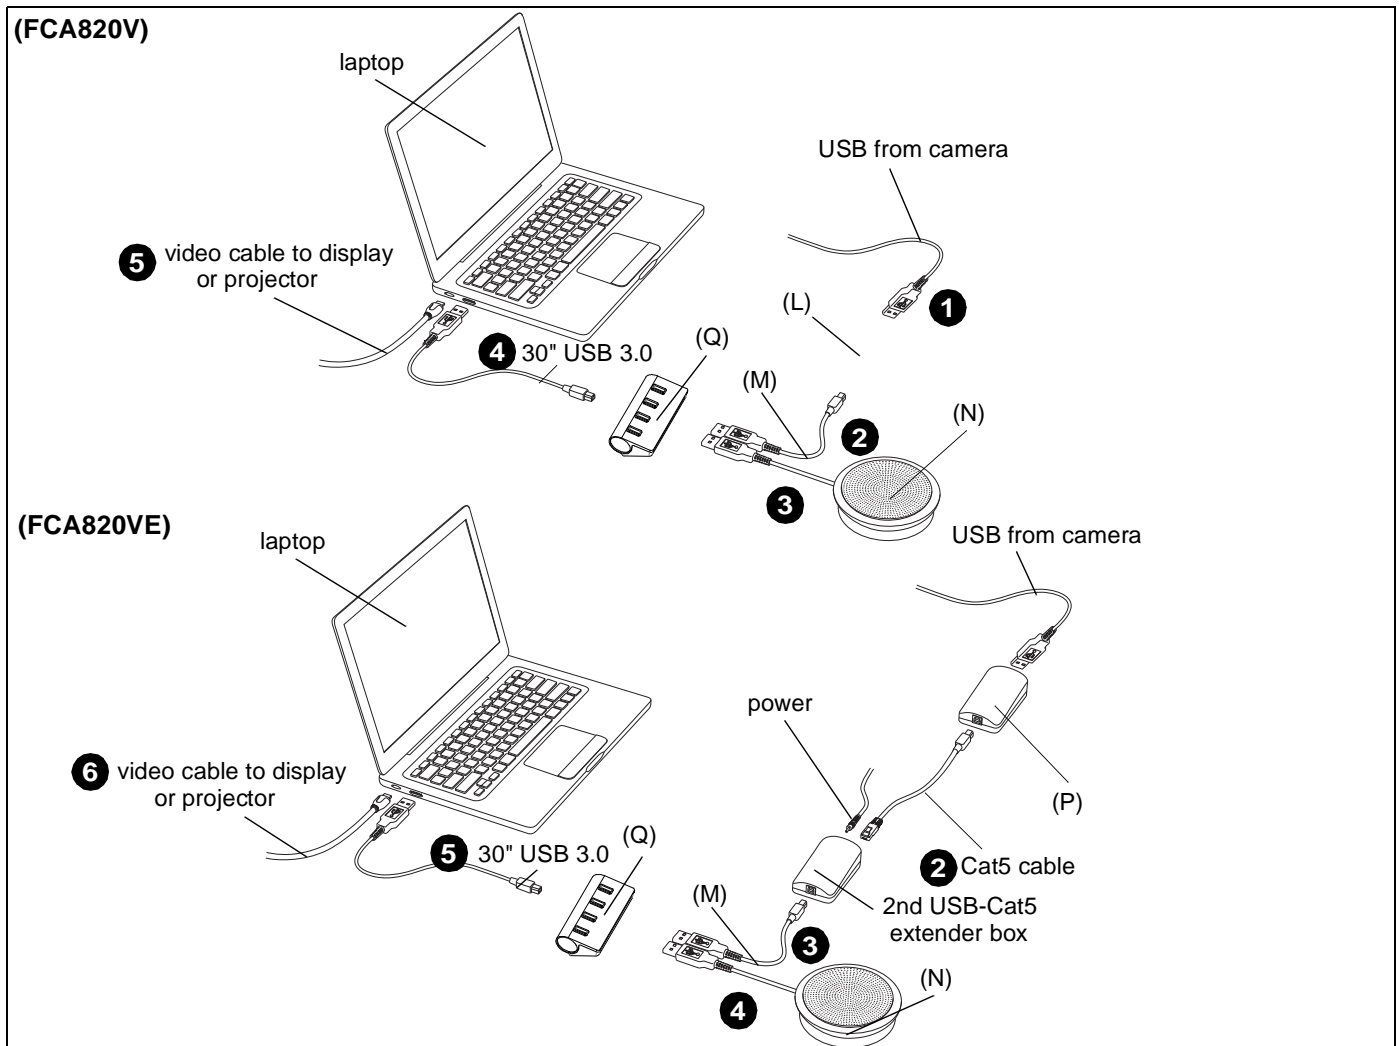

Figure 11
1. Connect camera to USB gender changer (L) using USB cable supplied with camera. (See Figure 11)
2. Connect USB gender changer (L) to 4-port USB hub (Q) using 10' USB cable (M). (See Figure 11)
3. Connect speaker phone (N) to 4-port USB hub (Q) using USB cable supplied with speaker phone (N). (See Figure 11)
4. Connect 4-port USB hub (Q) to computer using USB cable included with hub. (See Figure 11)
5. Connect computer to display or projector. (See Figure 11)
6. Verify the correct audio and video sources are selected in computer's settings (PC) or preferences (Mac). The camera will show up as "Logitech Webcam C930e."
1. Connect camera to USB extender box (P) using USB cable supplied with camera. (See Figure 11)
2. Connect USB extender box (P) to second USB extender box using CAT5 cable (not included). (See Figure 11)
3. Connect second USB extender box to 4-port USB hub (Q) using USB cable (M). (See Figure 11)
4. Connect speaker phone (N) to 4-port USB hub (Q) using USB cable supplied with speaker phone (N). (See Figure 11)
5. Connect 4-port USB hub (Q) to computer using USB cable included with hub. (See Figure 11)
6. Connect computer to display or projector. (See Figure 11)
7. Verify the correct audio and video sources are selected in computer's settings (PC) or preferences (Mac). The camera will show up as "Logitech Webcam C930e."